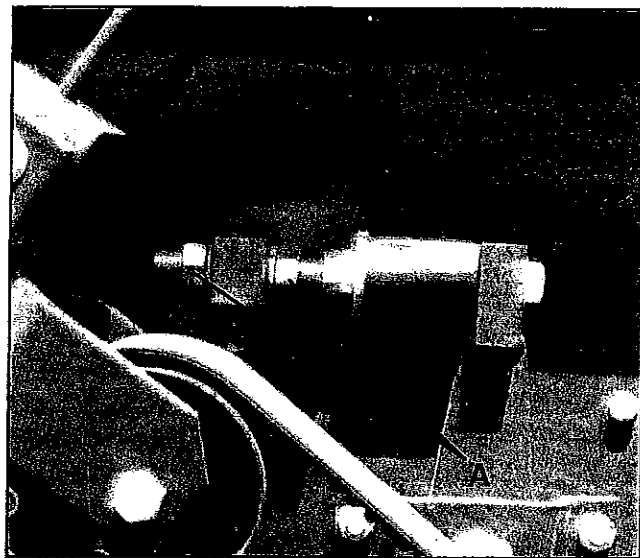

FIGURE 26 - DRIVE END ADJUSTMENT
Protection against rock damage to the grab rolls is provided by flex cushioned arms (see Figures 26 & 27) on the drive and discharge ends, allowing the grab rolls to
To maximize cleaning and reduce loss, increase spacing for larger beets and reduce spacing for small beets. To adjust loosen nuts (A) (see Figures 26 & 27, page 19) on adjusting bolt and adjust grab roll to desired spacing. Retighten nuts. Do not space too wide, beets could pull through grab rolls.